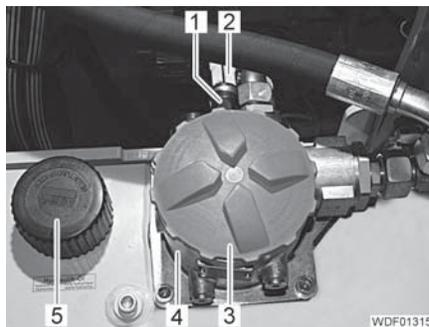

Fig. 434 Return filter
- Open the cap (Fig. 434,5).
- Briefly open the cap (Fig. 434,3) so that the fluid can flow out of the return filter and into the hydraulic fluid tank.
- Close the 2 caps (Fig. 434,3 and 5).
- Remove the 2 plugs (Fig. 434,2).
- Unscrew the overpressure switch (Fig. 434,1).
- Screw a new overpressure switch into the return filter (Fig. 434,4) and tighten it.
- Connect the 2 plugs (Fig. 434,2) onto the overpressure switch.